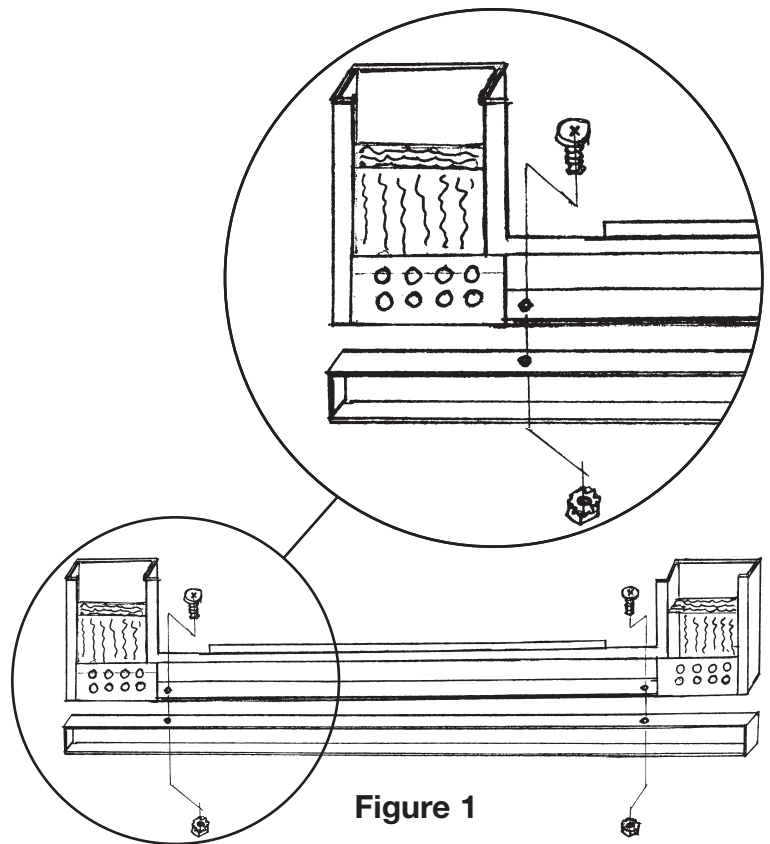

Figure 1
When the riser bar is required, lay the firescreen face down on a flat, padded surface. Attach the riser bar with two (2) 8-32 x 5/8" Machine Screws (#6) and two (2) Hex Nuts (#7) as shown in Figure 1. **Use caution to protect your hands from possible sharp metal edges.** NOTE: The back edges of the riser bar and the back edges of the bottom frame should be flush. In some cases, the riser bar will extend in front of the assembly frame which is correct.